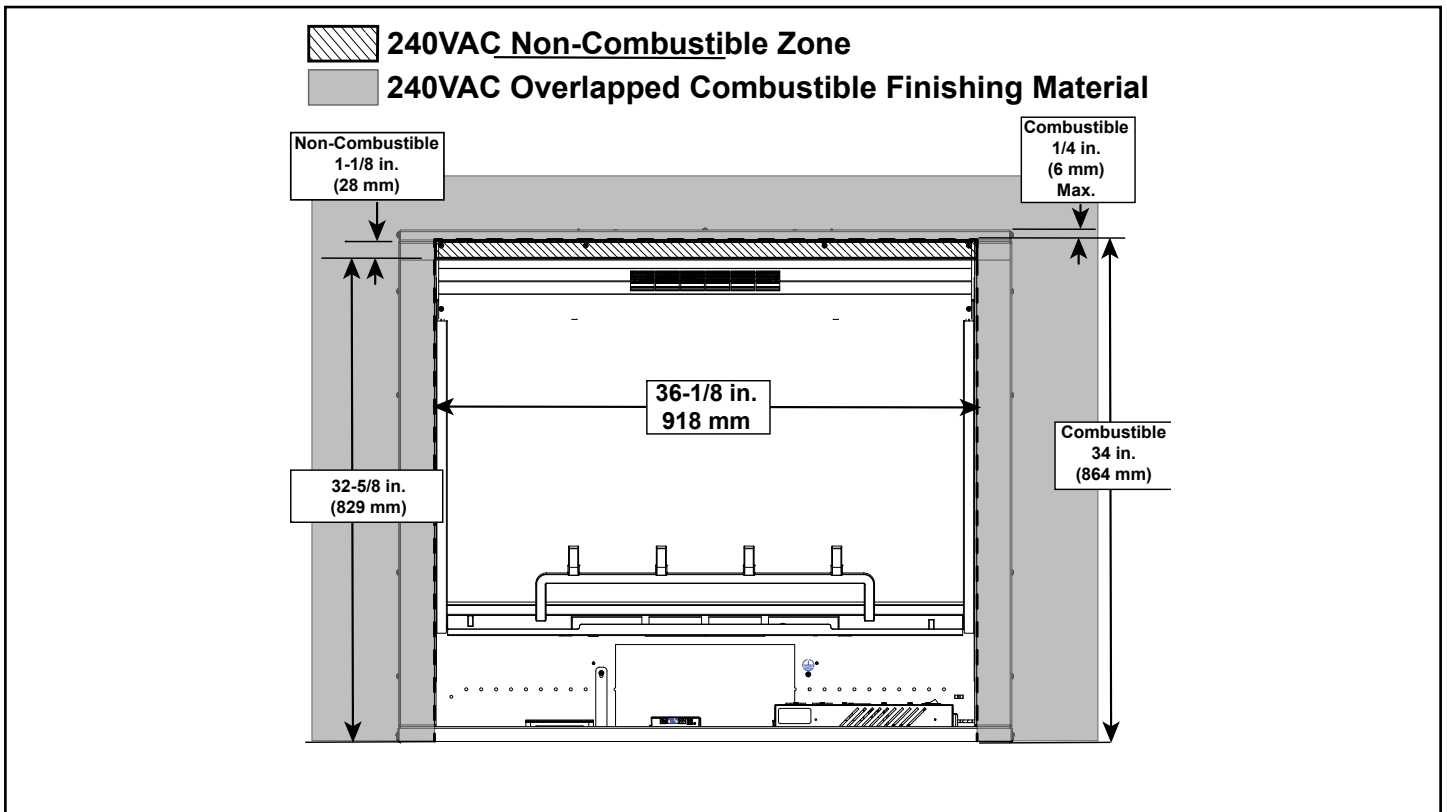

Figure 4.13 240 VAC Overlapped Finishing Clearances
2. Locate the (3) Positioning Tabs and bend tabs to an upward orientation. See Figure 4.13.